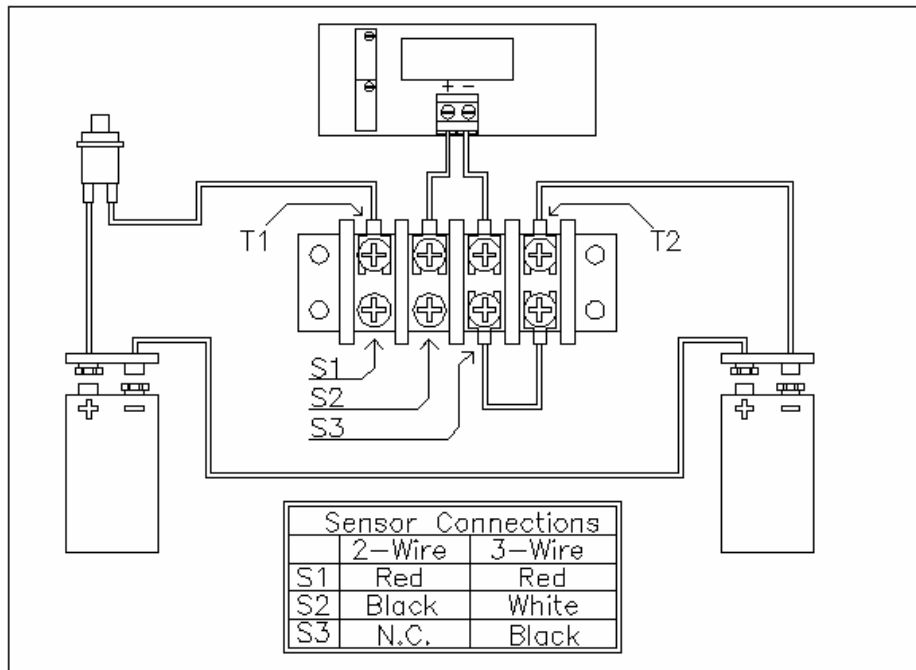

Figure 1.
- f. Set up the sensor for its minimum output current or put the current loop meter in “Simulate” mode and set it for the minimum output current of the sensor that will be connected to the EZ100 (4.000mA, 3.986mA, etc). If using a current loop meter, connect the red lead to terminal S1 and the black lead to terminal S2 according to Figure 1 on page 5.
2. Remove the battery leads from terminals T1 and T2 (see Figure 1 on page 5).